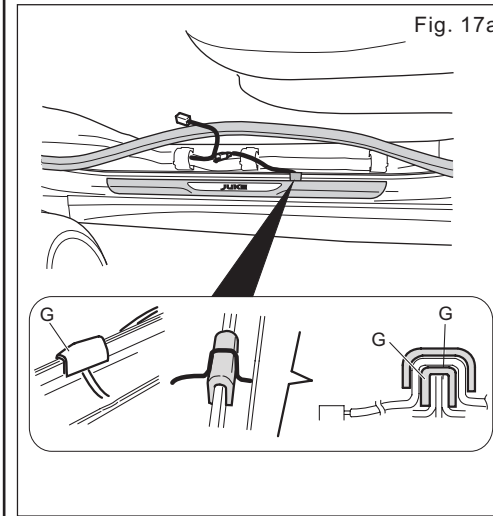

Fig. 17a
- a) Attach the Flat Wire Protector G to vehicle flange. Place the lamp harness on top of the Flat Wire Protector G. Attach the Flat Wire Protector, See in Fig. 17a.